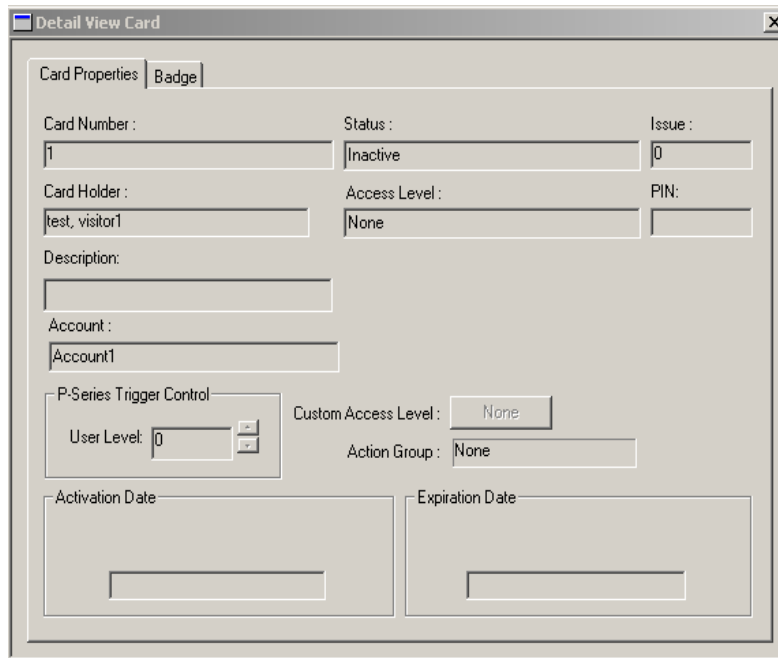

Figure 3-4 Detail View Card
- To view the details of a specific record in the list, click the record and then select the **Detail View** check box. A dialog box displaying the details of the record appears towards the right of the **Card** dialog box. See Figure 3-4.